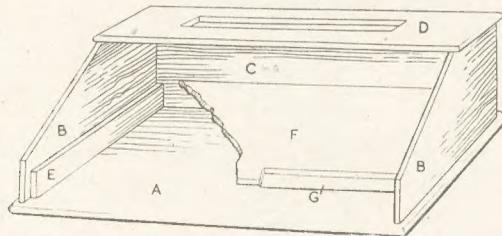
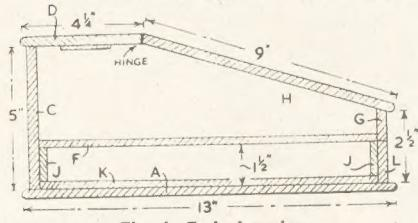

Fig. 2—Showing construction of the desk
Fig. 4—End elevation
A glance at Fig. 2 will show that the desk is glued and nailed or screwed to the base (A) which measures 18ins. by 13ins. by  $\frac{3}{8}$ in. It is not essential to have this in one piece. It can be made up of two or more pieces butted and glued together. The sides when screwed in place will strengthen them sufficiently.
(C) is glued between the sides and measures 16½ ins. by 5ins. by  $\frac{3}{8}$ in. Piece (D) will be 18ins. by 4½ins. by  $\frac{3}{8}$ in. The back and side edges will be rounded and the front edge chamfered to take the lid as shown in Fig. 4. A piece about 8ins. by 1in. can be cut from the centre to form a depression for the pencils and pens.
A backing piece of  $\frac{1}{2}$ in. or  $\frac{3}{8}$ in. wood must be glued underneath. Two side rails to take the floor of the well are next glued to the sides (B), in the position shown in Fig. 2. These rails (E) measure 11½ ins. by 1½ ins. by  $\frac{1}{4}$ in. The front rail (G) measures 16½ ins. by 1½ ins. by  $\frac{3}{8}$ in. and must be chamfered as shown in Fig. 4.
It will be noticed that an extra piece (L) is fixed to the front of the drawer. It projects  $\frac{1}{2}$ in. at each end and thus measures 16½ ins. by 1½ ins. It will be seen by comparing the sketches in Fig. 1 and Fig. 2 that piece (L) comes up flush with the side rails (E) when the drawer is pushed home.
The position of the hinge is shown in Fig. 4, and although outside flap hinges are easier to fix, it will look better if butt hinges are used. These should be recessed slightly into piece (D) and the lid to allow for the thickness of the hinge.